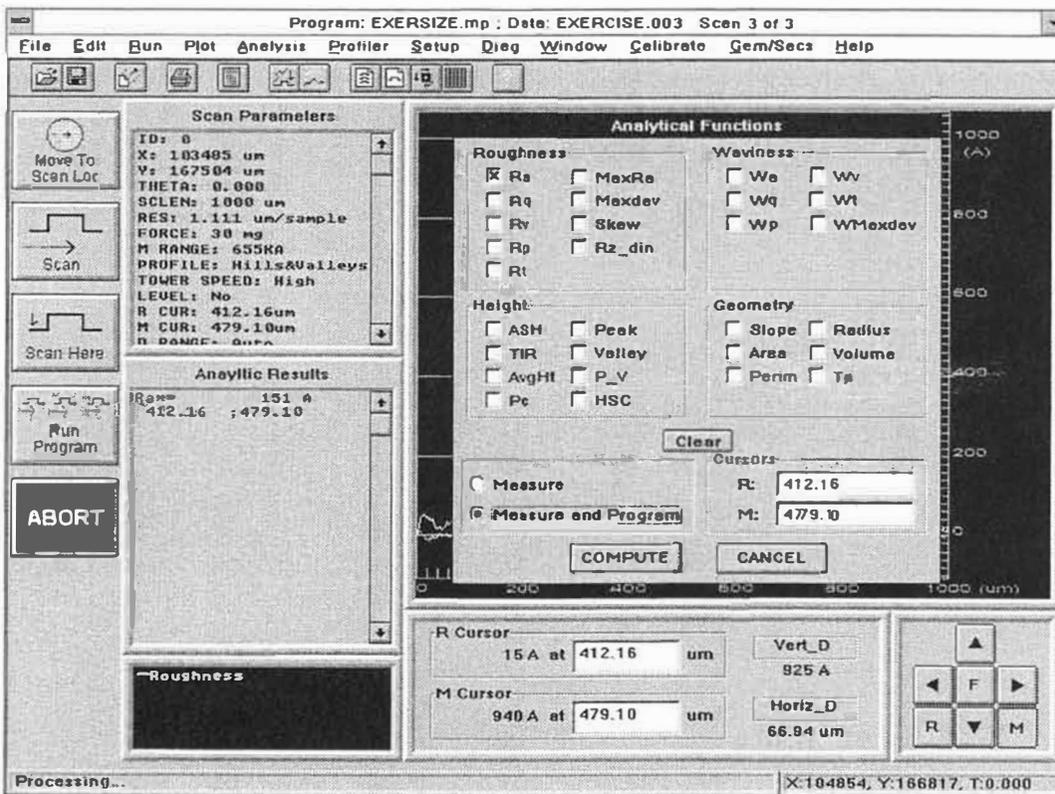

Figure 6-5. Analytical Functions/Data Plot Screen Entry
2. Click-on "Data Type" from the Plot menu. A window will be displayed permitting the selection of raw, roughness, or waviness data type display. All three selections should be activated as indicated by an "X" in their respective boxes (see Figure 6-5).